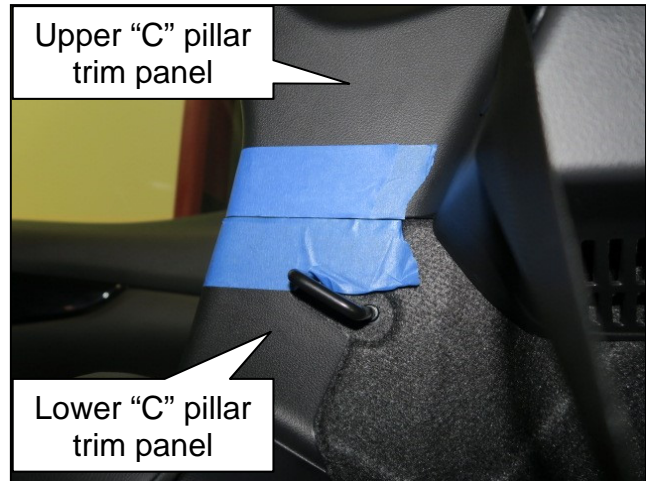

Figure 7
7. To protect the rear C pillar trim panels, apply masking tape to the upper and lower trim panels, as shown in Figure 7.